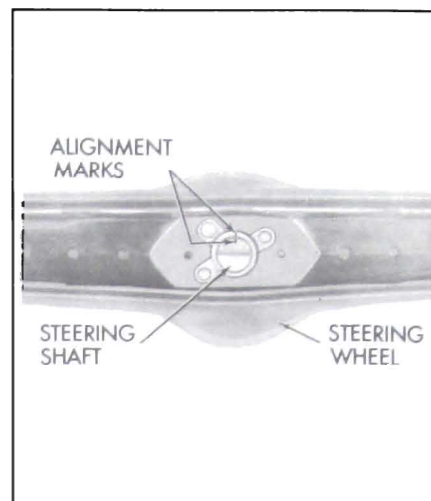

Figure 8-9—Steering Wheel and Shaft Alignment Marks
to specified load limits and hard steering exists, the front suspension members should be checked for lubrication and alignment and tire inflation pressures should be checked. When the car is moving straight ahead, the steering wheel should be in the straight-ahead position, or not over 5/8" to either side of the straight-ahead position. If steering wheel is too far to either side, check wheel for proper position on steering shaft (Figure 8-9) and check tie rods for equal adjustment and toe-in (Group 7). It is important to have the steering gear in the no-lash range when car is moving straight forward.
1. Install steering wheel with location marks on shaft and hub of wheel in line. See Figure 8-9.